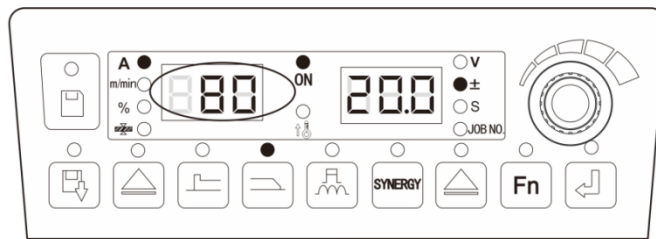

Fig.4-5 Setting Interface of Percentage for Arc Starting Parameter
2. When the “%” indicator is on and the left nixie tube flashes, set up the percentage of wire feeding speed in arc ending status through panel knob. After setting, press "Execute" key to confirm, as shown in Fig.4-5.